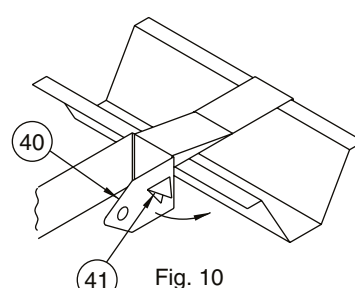

Fig. 10
3. Once all Brackets are in place bend Hanger Bar End (40) around to secure Brackets to the Channels as shown in Figure 10. NOTE: Nailor Tab (41) should lodge under edge of Furring Channel.
4. Tighten bar hanger Locking Screws (5) in ends of Plaster Frame (2) to prevent lateral movement of the Frame.